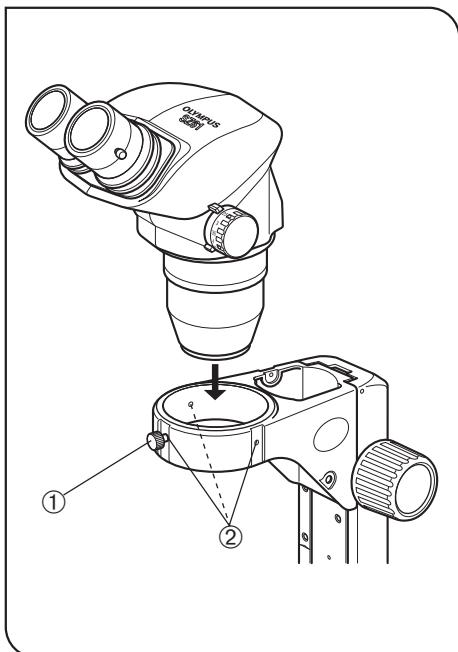

Fig. 13
(Fig. 13)
- Loosen the body clamping knob ① and insert the microscope body gently.
- ◎ The body clamping knob ① can be attached to any of the three positions ② around the arm. After installation, attach the knob to a position so that the knob does not come in the way of the light source, etc.
- ◎ If you always perform observation from the side of the focus adjustment knobs, the microscope body can be installed in the opposite orientation to that shown in Fig. 13 (at the 180° rotated position).